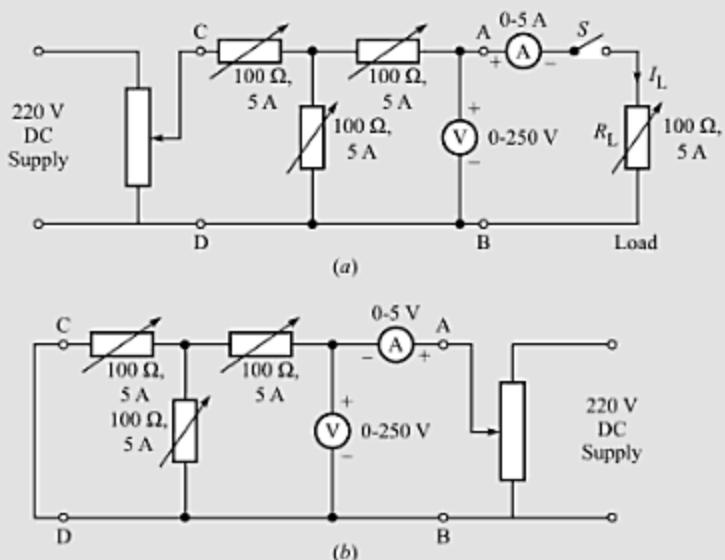

Fig. 4.58
**Circuit Diagram** The circuit diagrams are shown in Fig. 4.58.